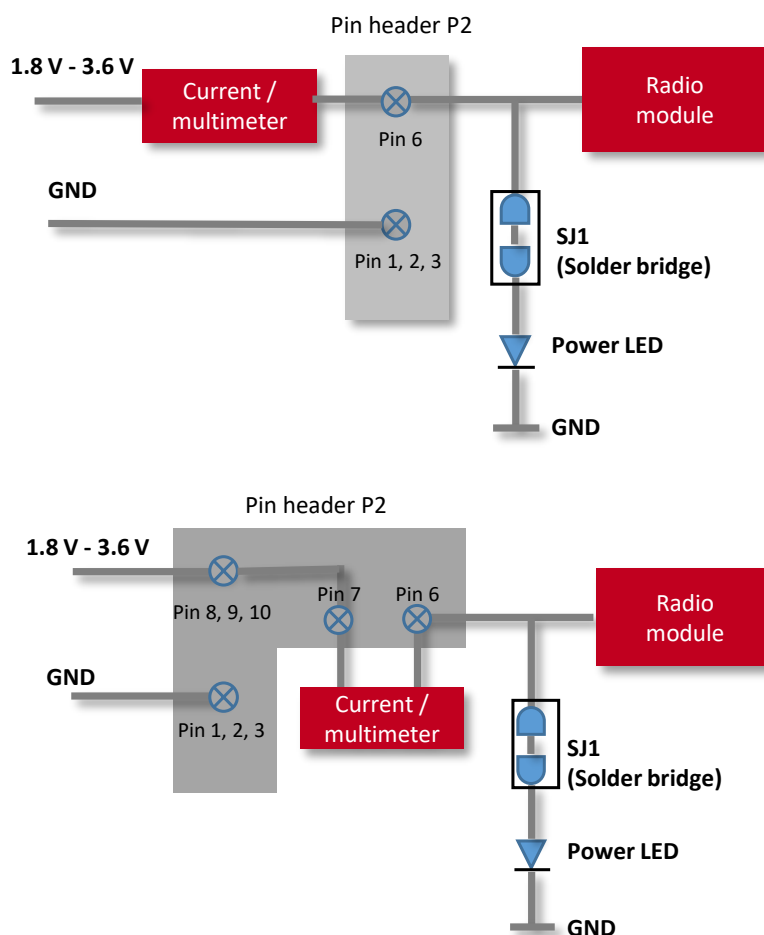

Figure 10: Power supply corresponding to table 21 No 3
1.8 V-3.6 V is connected either directly to Pin-6 (V_{DD_MOD} / V_{IN}) and the current is measured in series as illustrated in the upper picture of Figure 10.
Or it is connected to Pin 8-10 ($V_{EXT} / SUPPORT PINS$) and the current is measured on header P2 Pin 7 ($V_{EXT} / SUPPORT PINS$), which is internally connected with Pin 8, 9, 10 to Pin 6 (V_{DD_MOD} / V_{IN}) as illustrated in the lower picture of Figure 10. With SJ1 open the LED is not lighting but the current is measured corrected.